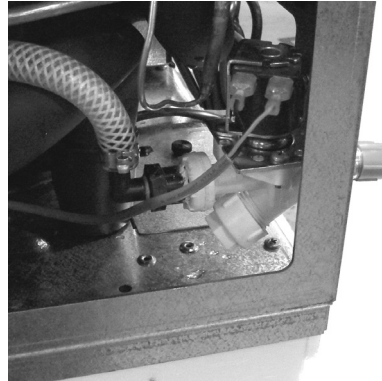

Figure 12. Right Side of Dispenser
3. Remove the access port from the “Y” shaped water inlet solenoid located on the right side of the dispenser. (See Figure 12)